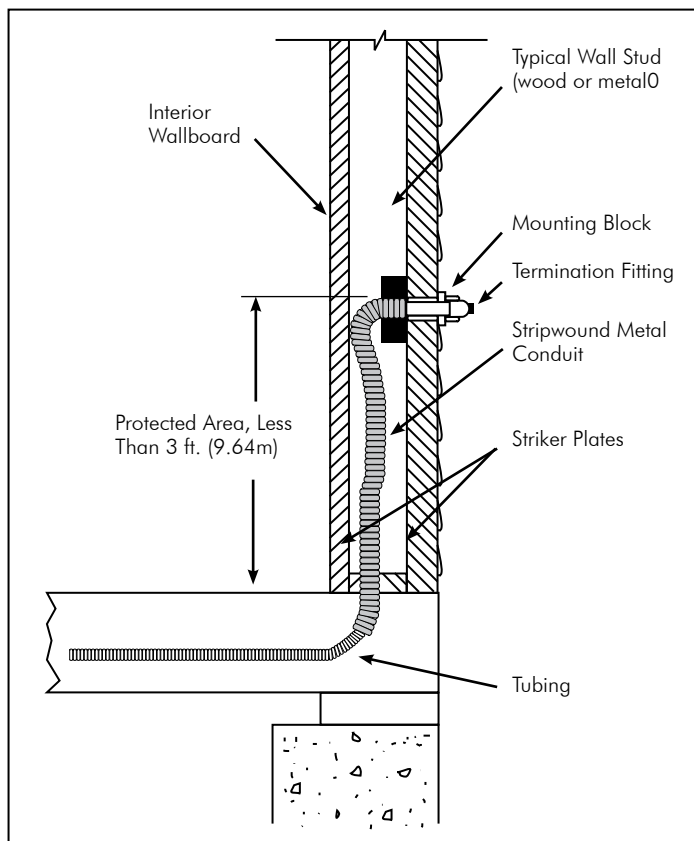

FIG. 4-14 Short Unsupported Tubing Run, under 3 ft. (9.84m), from an Outlet Device within a Wall Partition or Horizontal run between Studs
- E. Install strip wound metal conduit in locations where striker plates are impractical such as termination outlets and stub outs, short tubing runs and where tubing is routed horizontally between studs (see **FIG 4-14**).